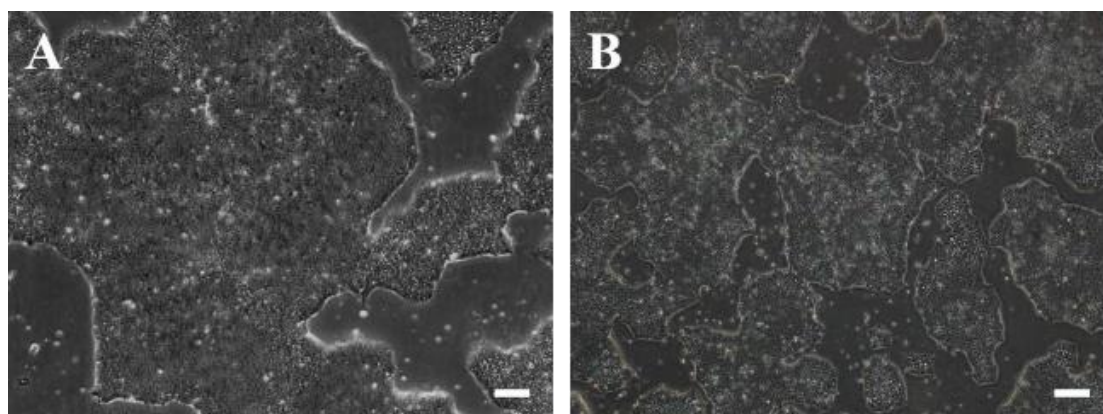

Figure 1: hiPSC colonies at approximately 85% confluency.
- 1.1. When cell confluency reaches approximately 85% (Figure 1), subculture every 4 days. Even if the colonies are small and confluency is low, do not culture for more than 5 days.
Passage at a ratio of 1:5 to 1:20 based on cell growth status and experimental needs. If cells are normal, with uniform colony size and 85% confluency (Figure 1), a 1:10 passage ratio is recommended. If cell density is low, reduce the passage ratio; if density is high, increase the ratio.
1. When the cell confluence reaches about 85% (Figures 1), cells can be harvest for cryopreservation. Typically, 2×10^6 – 4×10^6 viable cells per well of a 6-well plate can be collected and frozen in one cryovial.